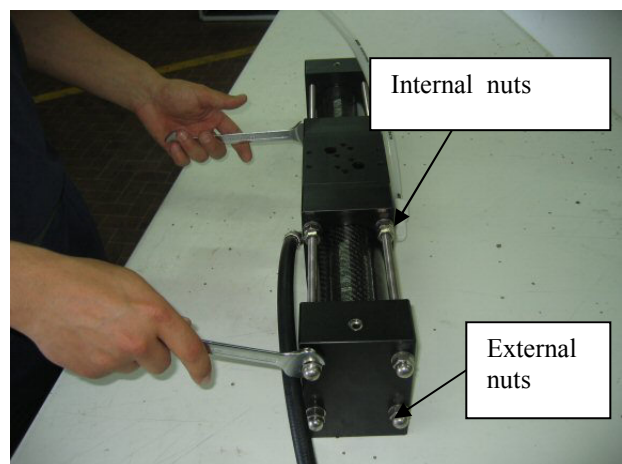

Fig. 10 – ERS dismantling
- 11) Remove the 8 external nuts M10 and the 16 M10 nuts (Fig.10);